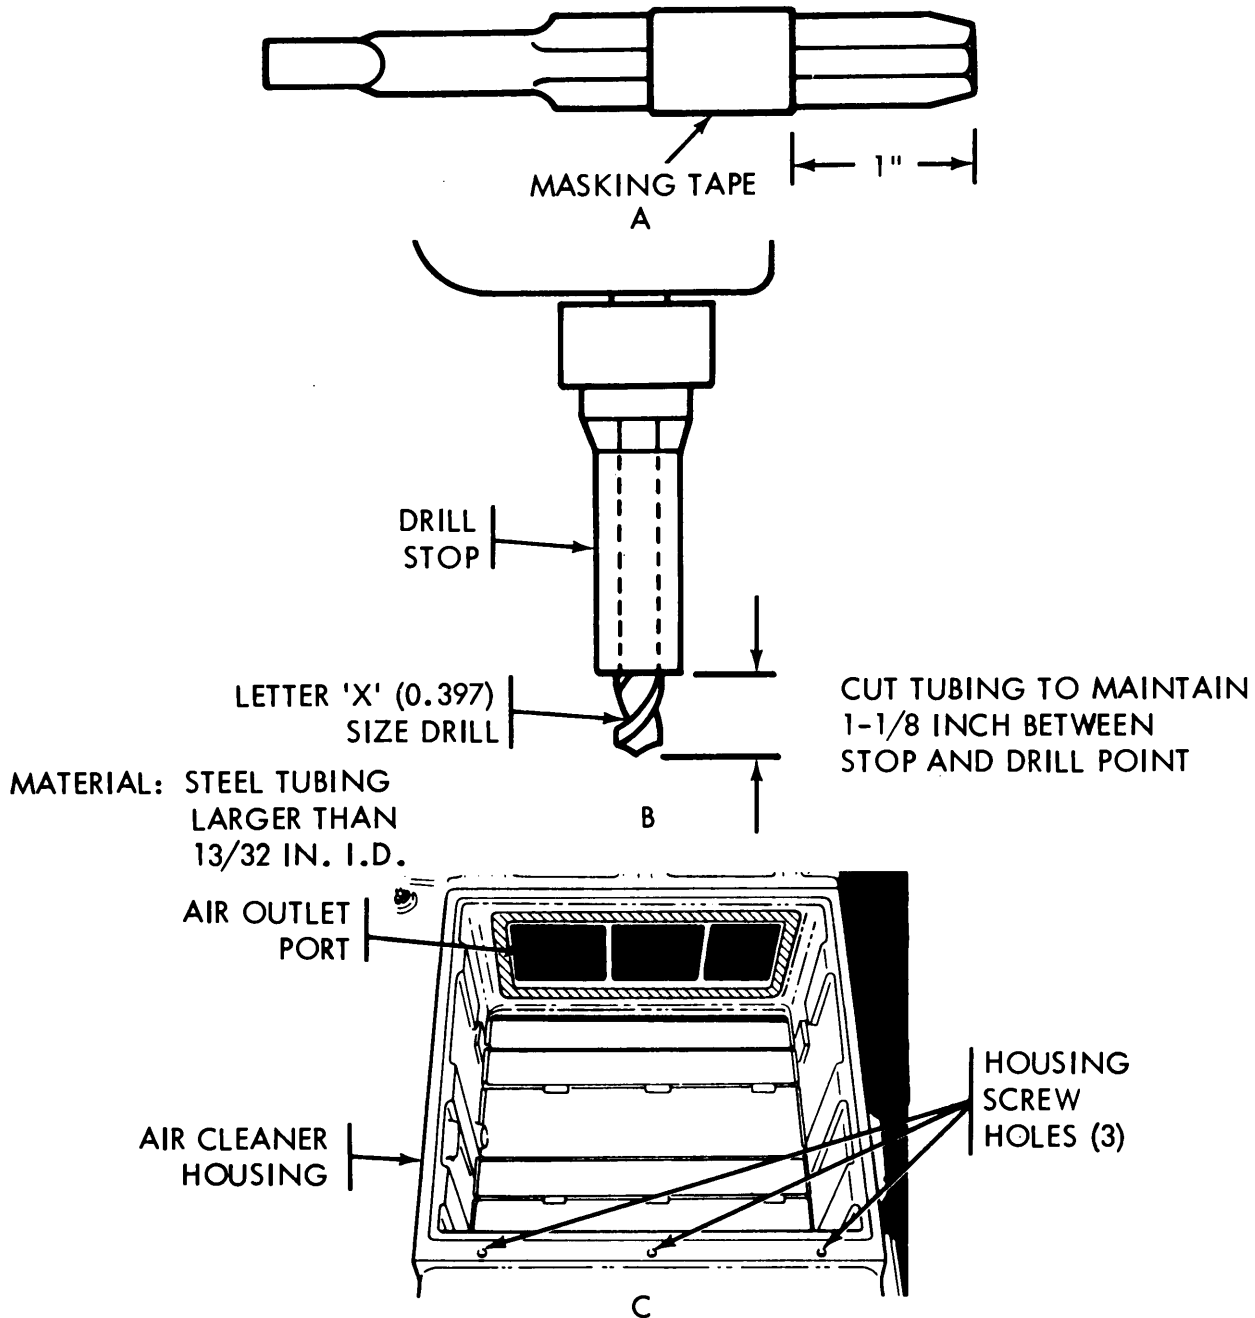

Figure 4-26. Air cleaner housing screw hole repair.
(2) Repair. Perform the following to repair housing hole (fig. 4-26).